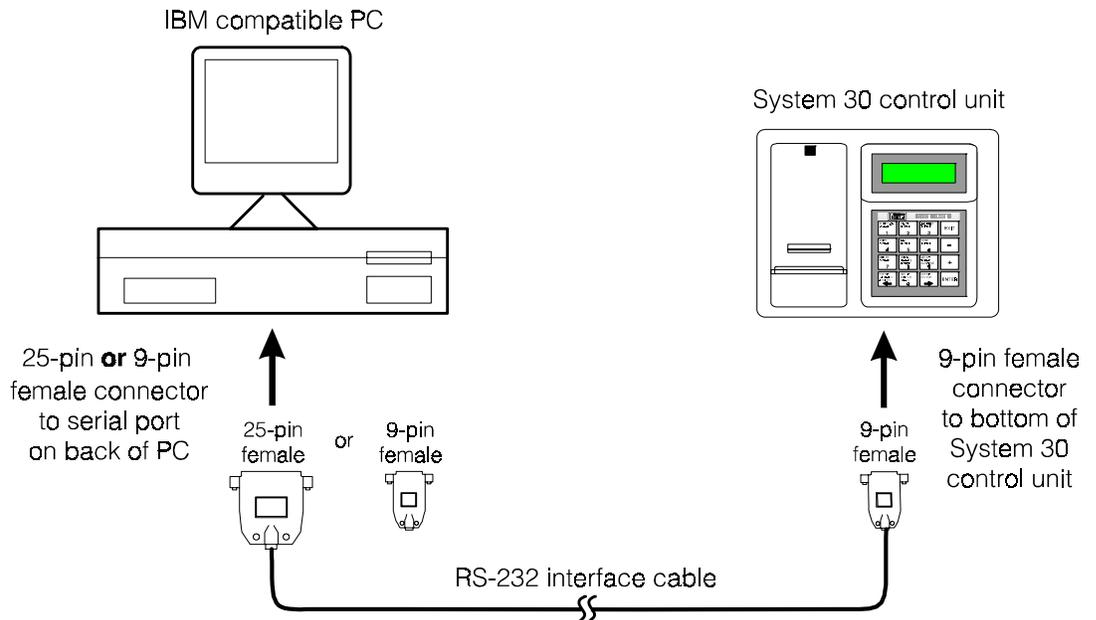

**Figure 4. RS-232 cable pin connections (PC to a System 30 Timer)**
- Pin connections for the cable wires must be as shown in Figure 4.